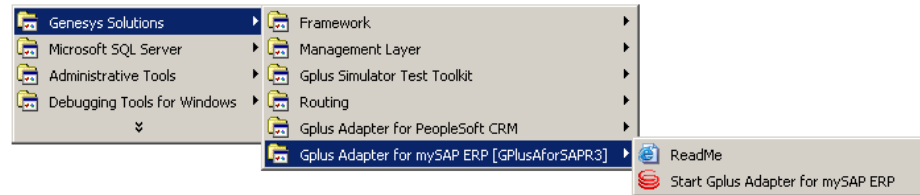

Figure 9: Start Menu
- The Adapter for SAP ERP group in the Start > Programs > Genesys Solutions menu. See Figure 9.